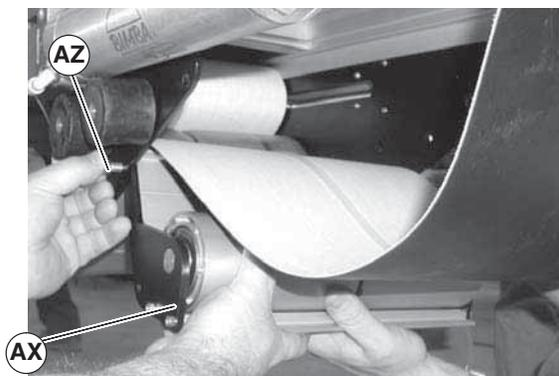

Figure 89
3. Swing down idler guard assembly (Figure 89, item AX). Remove screw (AZ) from both sides of center drive and remove idler guard assembly (AX).